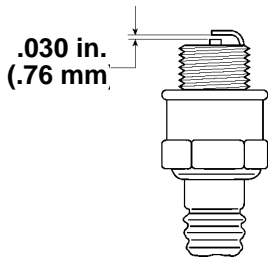

Figure 21
- Set the gap on the new plug to 0.030" (0.76 mm) (Fig. 21).